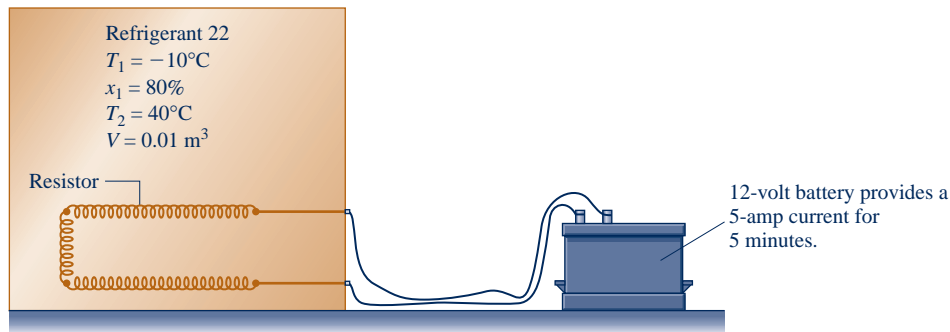

Fig. P3.63
3.63 As shown in Fig. P3.63, a closed, rigid tank fitted with a fine-wire electric resistor is filled with Refrigerant 22, initially at -10°C , a quality of 80% , and a volume of 0.01 m^3 . A 12-volt battery provides a 5-amp current to the resistor for 5 minutes. If the final temperature of the refrigerant is 40°C , determine the heat transfer, in kJ, from the refrigerant.